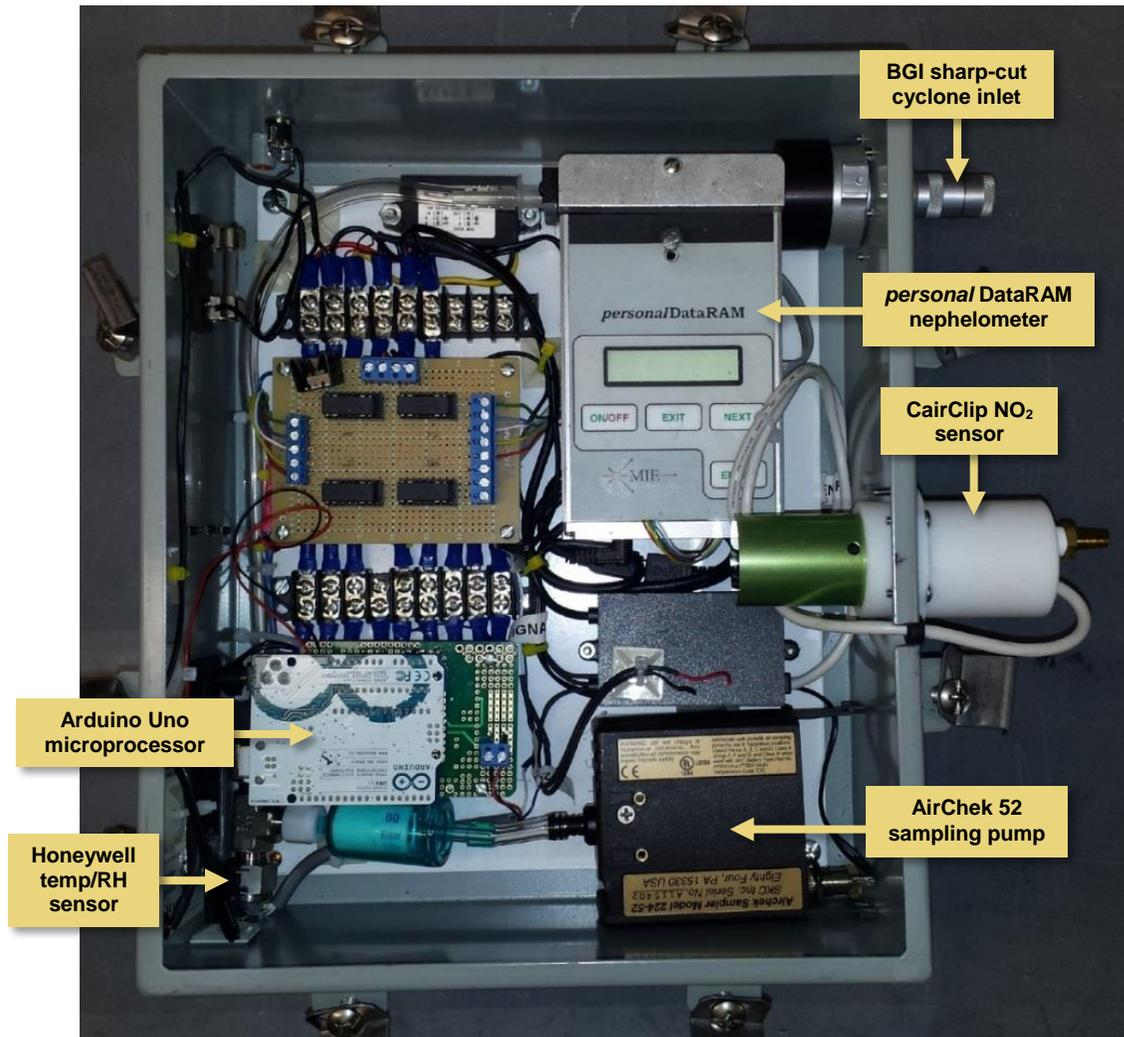

Figure 1
The CSAM simultaneously measures NO₂ and PM along with temperature and relative humidity (RH). NO₂ and PM are pollutants of concern in the ambient environment because of the adverse health risks they pose, as described below. (For more information on these air pollutants visit <http://www.epa.gov/airquality/urbanair/> and <http://www.epa.gov/air/criteria.html>.) While the CSAM is designed for easy operation and retrieval of data for all measurements at once (see the CSAM Operating Procedure), the unit consists of several components that generate the data. Citizen volunteers will not need to operate each component of the CSAM separately, but a general knowledge of the components that make up the CSAM will aid in understanding the requirements for data quality. Figure 1 shows the inside of the CSAM unit and its separate components. Each of these components is described in detail in the following subsections. Table 1 lists the measurement units reported by each component.